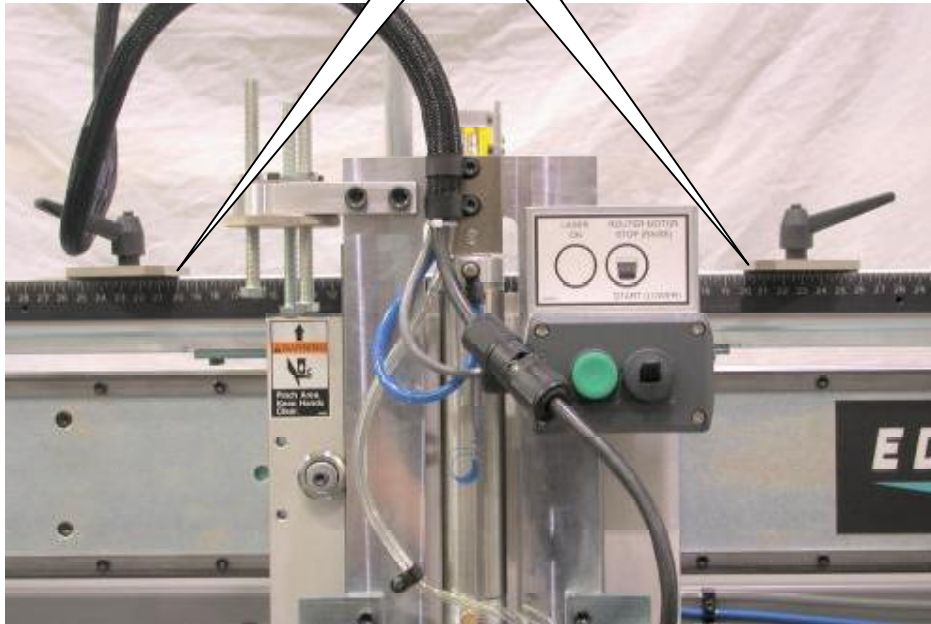

Figure 11
4. Position the left and right stops for the width of the cutout (see Figure 11) to the desired dimension. The scale is in half-scale increments so if you want a 20" opening width, set the left and right stops at 20".